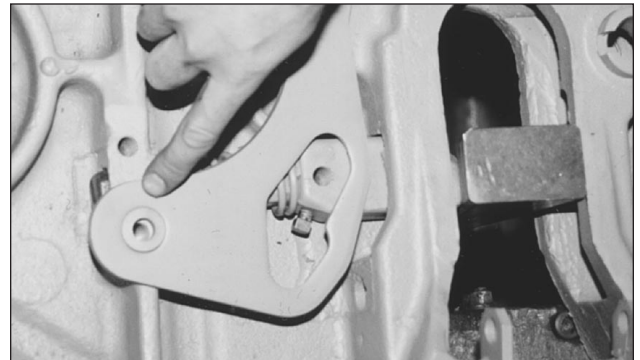

FIGURE 4
8. Install a $\frac{1}{2}$ " I.D. roller (18) in the cam anchor hole (see *Figure 4*).